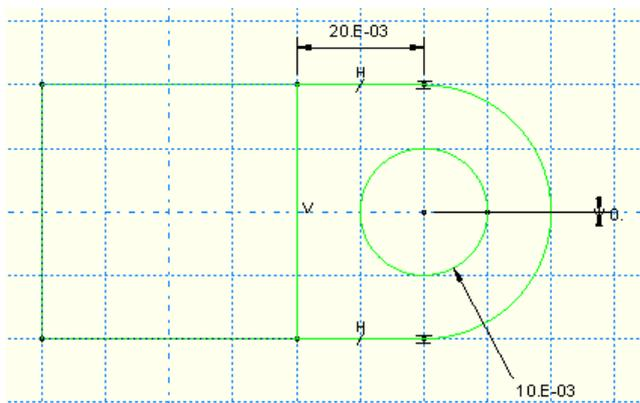

Figure C-8 Final sketch.
11. The final sketch is shown in Figure C-8.